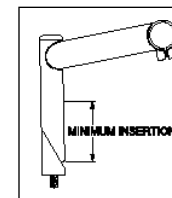

Fig. 1
4. On threaded steerers, insert stem to a minimum depth according to CPSC and JIS standards. The stem must be inserted to a minimum engaging length not less than 2.5 times the stem diameter from the lowest end of the stem, not the wedge (see Fig. 1).
FIG. 1. REPLACEMENT OF THE ASSEMBLY MUST BE DONE TO CHANGE LENGTH, DIAMETER, OR HEADSET TYPE (THREADED OR THREADLESS). DO NOT REMOVE OR REPLACE THE STEERER TUBE, THIS COULD RESULT IN LOSS OF CONTROL OF THE BICYCLE WITH POSSIBLE SERIOUS AND /OR FATAL INJURIES.